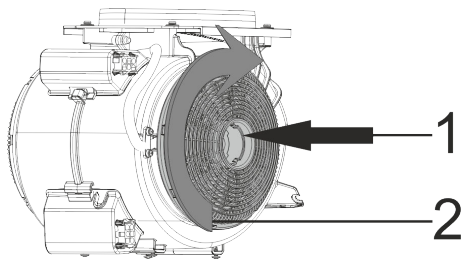

Fig. 7: CARBON FILTER
- 1-Place the carbon filter in its housing (Fig. 7).
- 2-Rotating the carbon filter clockwise, ensure that it is completely fit (Fig. 7).